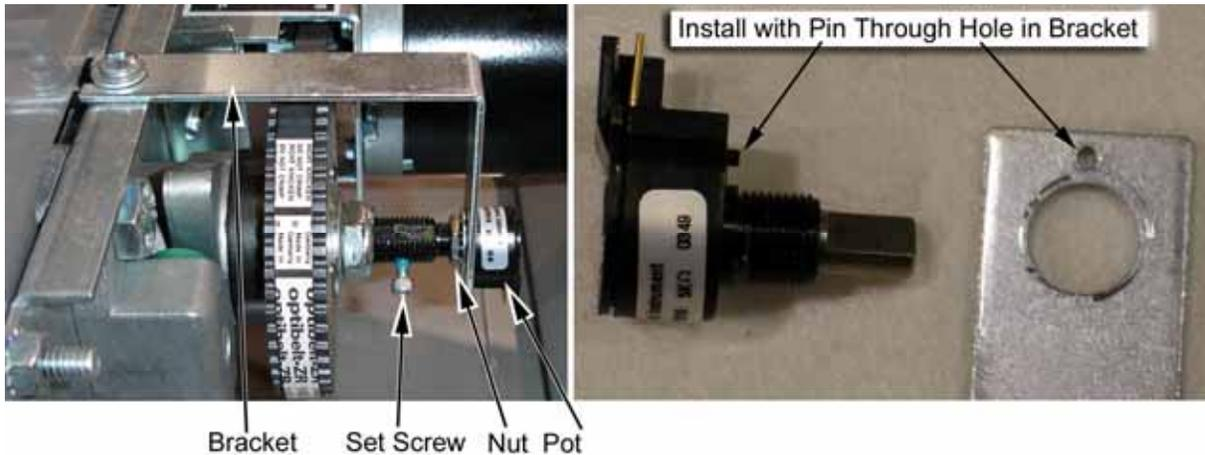
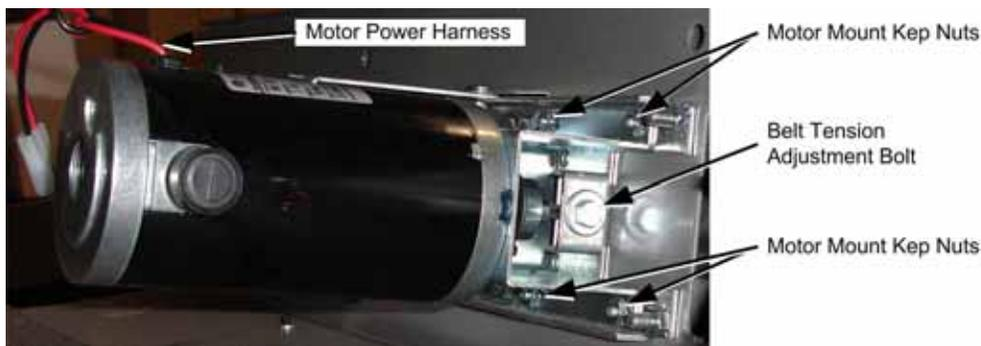

Figure 4. Replacing the 5 K Ω Steering Pot
Figure 5. Servicing the Steering motor
To replace a pot, refer to Figure 4 and perform the following steps:
- Reverse these steps to install the new pot. Install the pot with the plastic pin through the small hole in the bracket, as shown in Figure 4 below. Make sure the set screw is against the flat part of the shaft. Tighten the set screw firmly with an Allen wrench and secure with blue Loctite[®].
Refer to Figure 4 above, and Figure 5 below, and perform the following steps to remove the force-feedback belt for repair. Always replace the belt if it looks cracked or worn.
- Using a 7/64 Allen wrench, loosen the set screw from the steering column and remove the bracket with the pot attached (see Figure 4).
- Using a 10mm socket wrench, loosen the belt tension adjustment bolt several turns until you can slip the belt off of the motor and steering gears (see Figure 5).
- Loosen the four (4) 3/8" motor mount Kep nuts that secure the steering motor to the frame (see Figure 5).
- To replace the motor, remove the four (4) 3/8" Kep nuts that you loosened in step 2, and remove the motor.